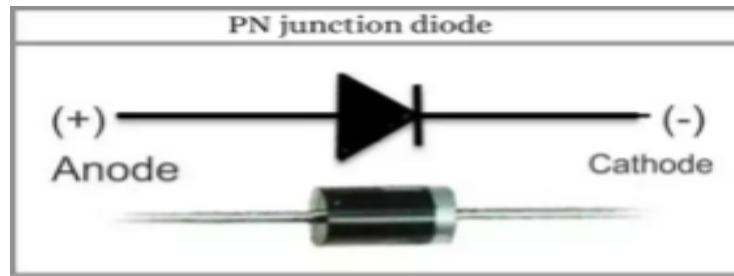
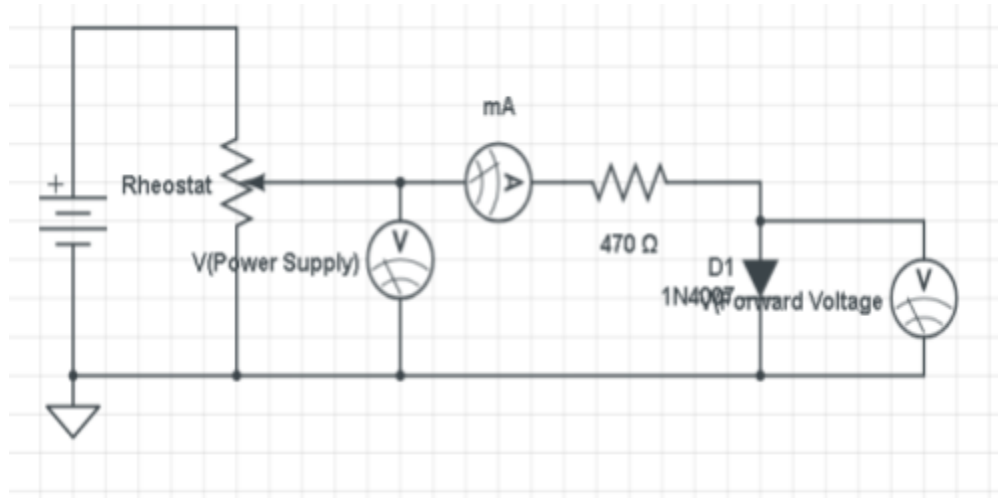

Fig 2: P-N Junction Polarity.
Fig 3: Forward-bias Circuit.
1. Connect the circuit shown in Figure 3. Refer to Figure 2 for the polarity of the diode.